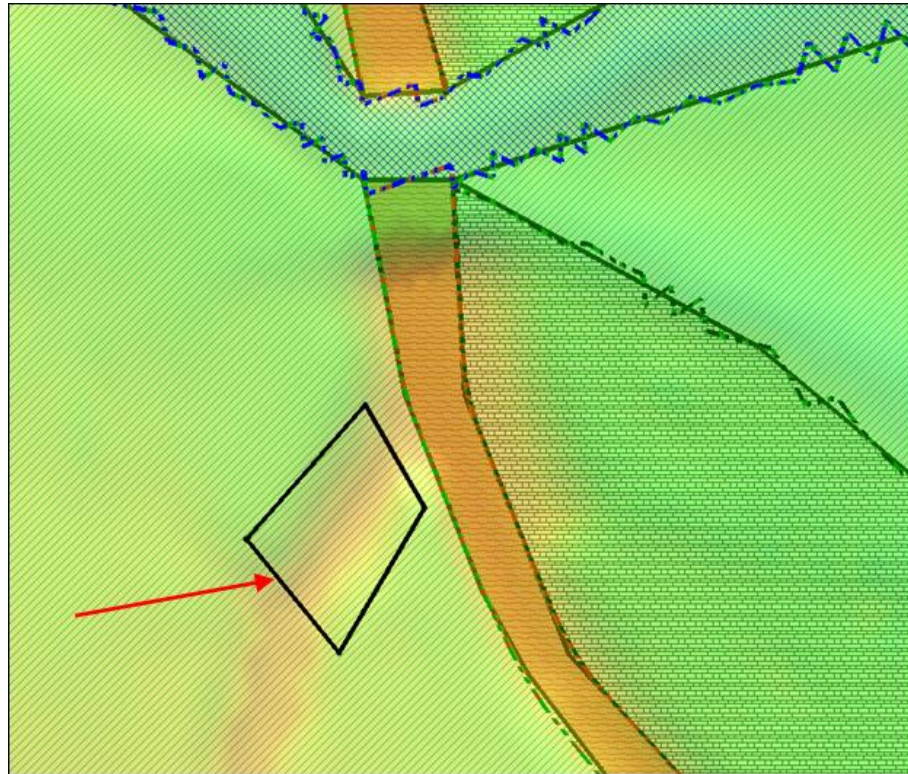

Figure 5 Arc enclosing the area between the weir arcs
7. Use the **Create Feature Arc**  tool to create an arc enclosing the region between the weir arcs. If drawn correctly, the arc should enclose upon itself and appear similar to the arc in Figure 5.